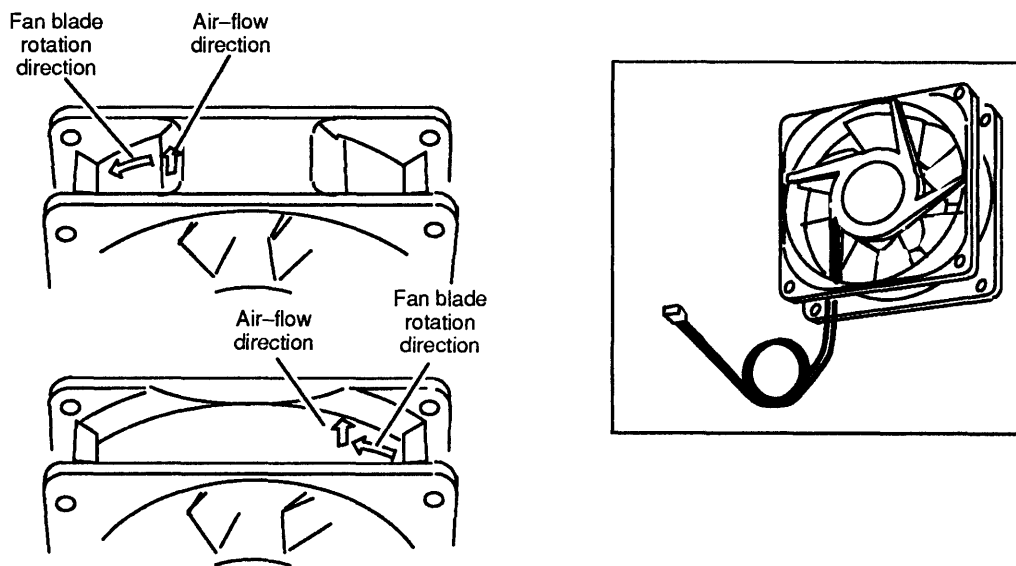

Figure 4–10 Locating the Fan's Air-Flow Direction
3. Find the air-flow direction arrow on the replacement fan. Figure 4–10 shows the location of the arrow depending on the style of fan you receive. The air-flow direction arrow indicates the direction in which the air will move through the fan.
4. Position the replacement fan in the tray assembly so that the fan cable is located in the lower left corner and the air-flow direction arrow points toward the back of the tray assembly. Refer to Figure 4–11.